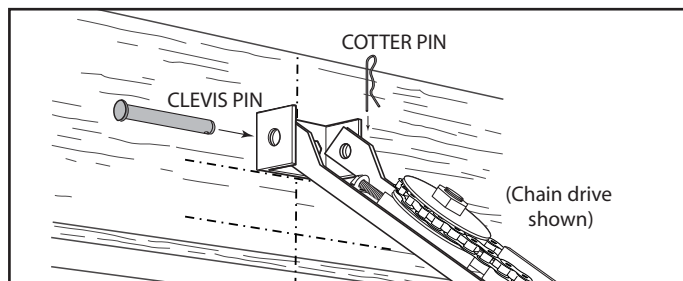

FIG. 2-5 Rail mounting to Header bracket
- Support power head on step-ladder to prevent interference with header mounted (torsion) spring (**Fig. 2-5**).